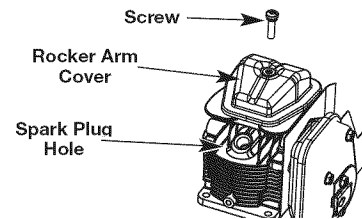

Fig. 25
5. Clean dirt from around the rocker arm cover. Remove the screw holding the rocker arm cover with a large flat blade screwdriver or Torx T-25 bit (Fig. 25). Remove the rocker arm cover and gasket.
- The piston is at the top of its travel. This should be done by looking into the spark plug hole. (Fig. 25)